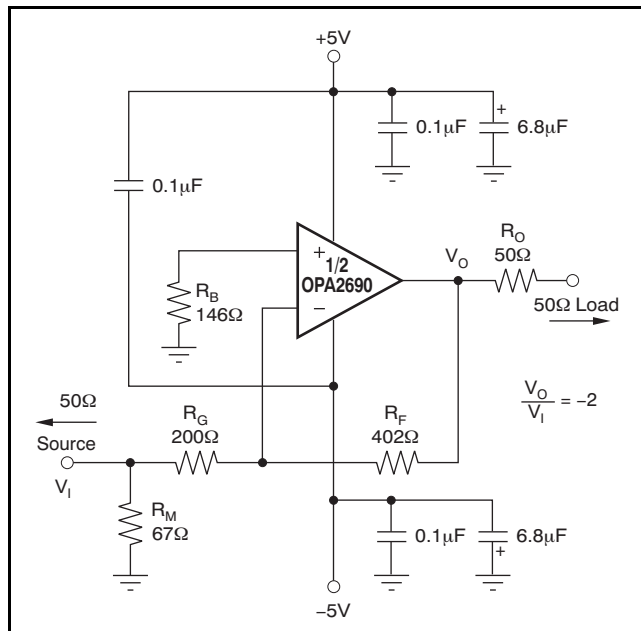

Figure 47. Gain of –2 Example Circuit
Since the OPA2690 is a general-purpose, wideband voltage-feedback op amp, all of the familiar op amp application circuits are available to the designer. Inverting operation is one of the more common requirements and offers several performance benefits. Figure 47 shows a typical inverting configuration where the I/O impedances and signal gain from Figure 36 are retained in an inverting circuit configuration.
100Ω feedback resistor. This has the interesting advantage that the noise gain becomes equal to 2 for a 50Ω source impedance—the same as the noninverting circuits considered in the previous section. The amplifier output, however, will now see the 100Ω feedback resistor in parallel with the external load. In general, the feedback resistor should be limited to the 200Ω to $1.5k\Omega$ range. In this case, it is preferable to increase both the R_F and R_G values, as shown in Figure 47, and then achieve the input matching impedance with a third resistor (R_M) to ground. The total input impedance becomes the parallel combination of R_G and R_M .
The second major consideration, touched on in the previous paragraph, is that the signal source impedance becomes part of the noise gain equation and influences the bandwidth. For the example in Figure 47, the R_M value combines in parallel with the external 50Ω source impedance, yielding an effective driving impedance of $50\Omega \parallel 67\Omega = 28.6\Omega$. This impedance is added in series with R_G for calculating the noise gain (NG). The resultant NG is 2.8 for Figure 47, as opposed to only 2 if R_M could be eliminated as discussed above. The bandwidth will therefore be slightly lower for the gain of -2 circuit of Figure 47 than for the gain of $+2$ circuit of Figure 36.
The third important consideration in inverting amplifier design is setting the bias current cancellation resistor on the noninverting input (R_B). If this resistor is set equal to the total dc resistance looking out of the inverting node, the output dc error, due to the input bias currents, will be reduced to (Input Offset Current) $\times R_F$. If the 50Ω source impedance is dc-coupled in Figure 47, the total resistance to ground on the inverting input will be 228Ω . Combining this in parallel with the feedback resistor gives the $R_B = 146\Omega$ used in this example. To reduce the additional high-frequency noise introduced by this resistor, it is sometimes bypassed with a capacitor. As long as $R_B < 350\Omega$, the capacitor is not required because the total noise contribution of all other terms will be less than that of the op amp input noise voltage. As a minimum, the OPA2690 requires an R_B value of 50Ω to damp out parasitic-induced peaking—a direct short to ground on the noninverting input runs the risk of a very high-frequency instability in the input stage.
Evaluating these two equations for the OPA2690 circuit and component values (see Figure 36) gives a total output spot noise voltage of 12.3nV/√Hz and a total equivalent input spot noise voltage of 6.1nV/√Hz. This is including the noise added by the bias current cancellation resistor (175Ω) on the noninverting input. This total input-referred spot noise voltage is only slightly higher than the 5.5nV/√Hz specification for the op amp voltage noise alone. This will be the case as long as the impedances appearing at each op amp input are limited to the previously recommend maximum value of 300Ω. Keeping both $(R_F \parallel R_G)$ and the noninverting input source impedance less than 300Ω will satisfy both noise and frequency response flatness considerations. As the resistor-induced noise is relatively negligible, additional capacitive decoupling across the bias current cancellation resistor (R_B) for the inverting op amp configuration of Figure 47 is not required.